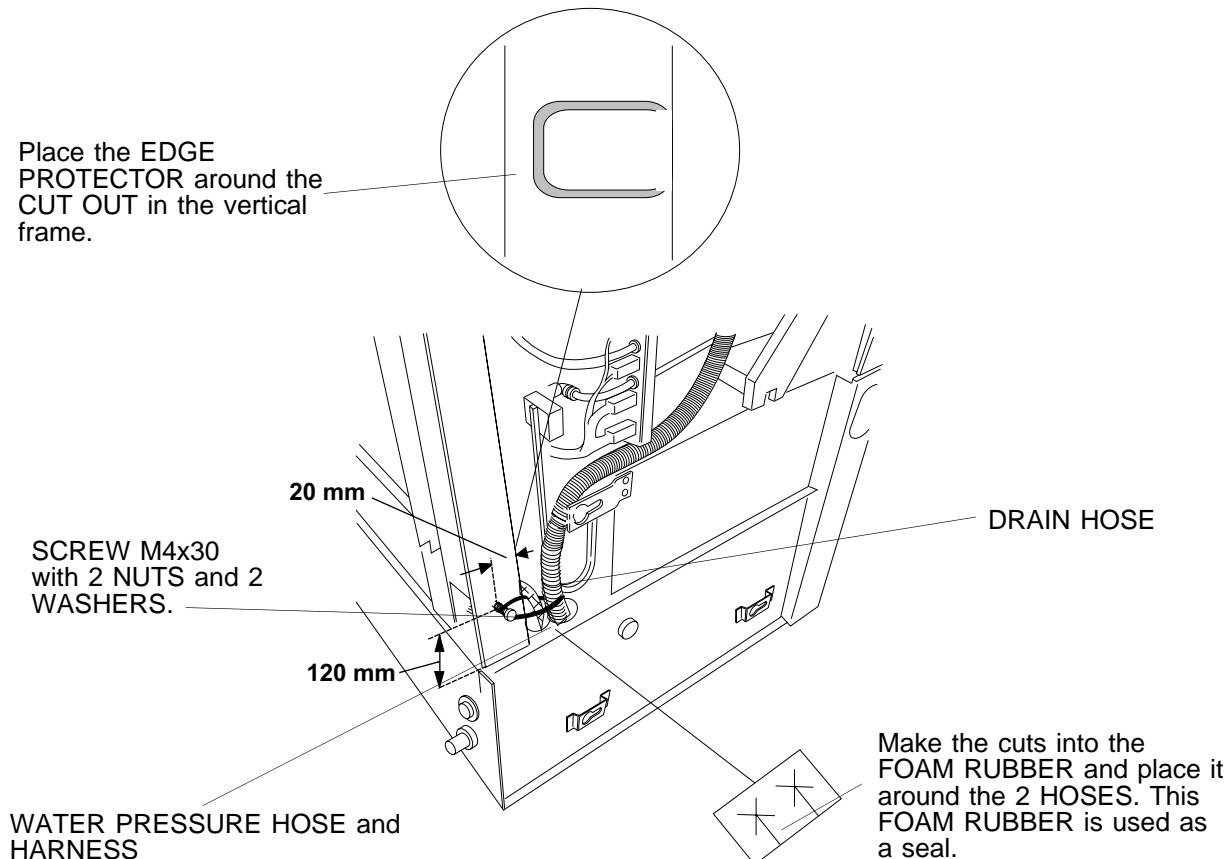

figure 2-14
30. Place the GROMMET STRIP at the hole for the WATER PRESSURE HOSE. The GROMMET STRIP prevents the WATER PRESSURE HOSE from being cut. See figure 2-14.
34. Drill a hole 5 mm into the FRAME and mount the SCREW M4x30 with 2 NUTS and 2 WASHERS. Fix the DRAIN HOSE with a WIRE TIE to this SCREW. This ensures that the DRAIN HOSE does not come in contact with moving parts. See figure 2-14.